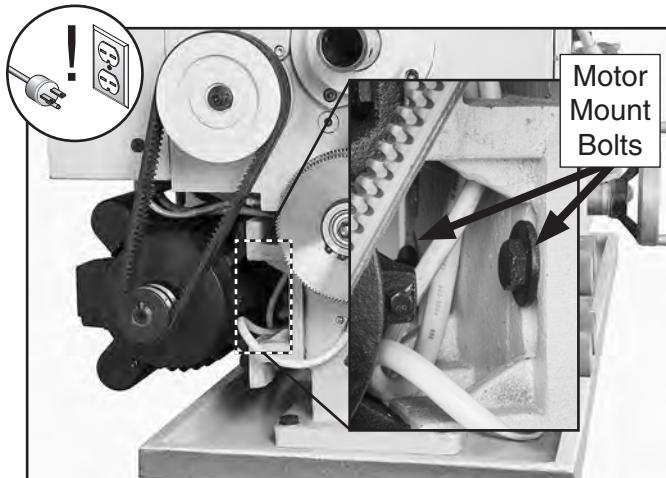

Figure 124. Checking V-belt deflection.
3. Loosen motor mount hex bolts shown in **Figure 124**.
3. Loosen motor mount bolts (see **Figure 124**), slide motor up, and remove V-belts.